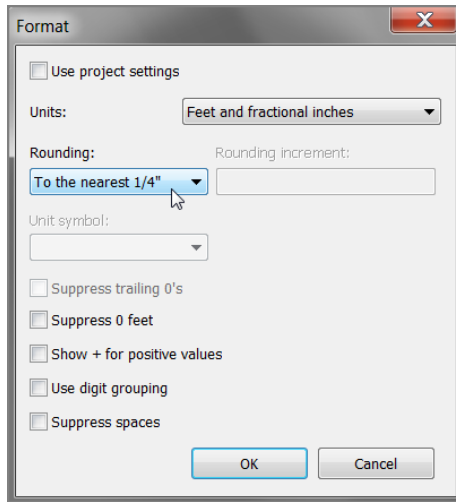

FIGURE 5.15: Changing the dimension's precision. Note some of the other available choices.
7. Choose To The Nearest 1/4" (To The Nearest 10) from the Rounding drop-down menu (see Figure 5.15).